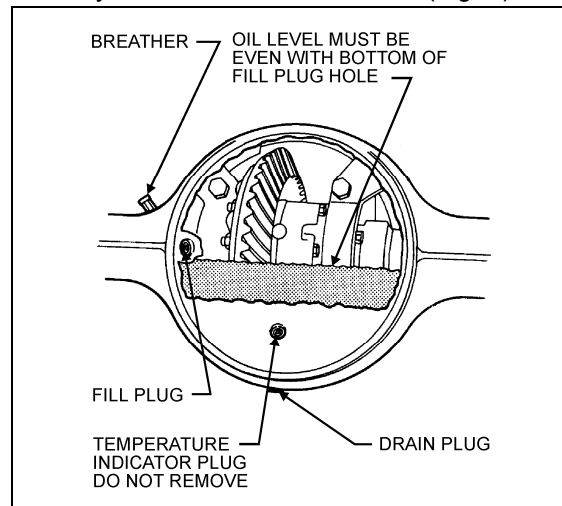

FIGURE 2: DIFFERENTIAL AXLE HOUSING BOWL 11007
- FIGURE 2: DIFFERENTIAL AXLE HOUSING BOWL.....11-2
80W140 for southern climates. In extreme conditions, or for better performance, fill with synthetic gear oil. Check oil level and add (if necessary) every 6,250 miles (10 000 km) or twice a year, whichever comes first (Fig. 2).
3. Clean the area around the fill plug. Remove the fill plug from the differential axle housing bowl (Fig. 2).